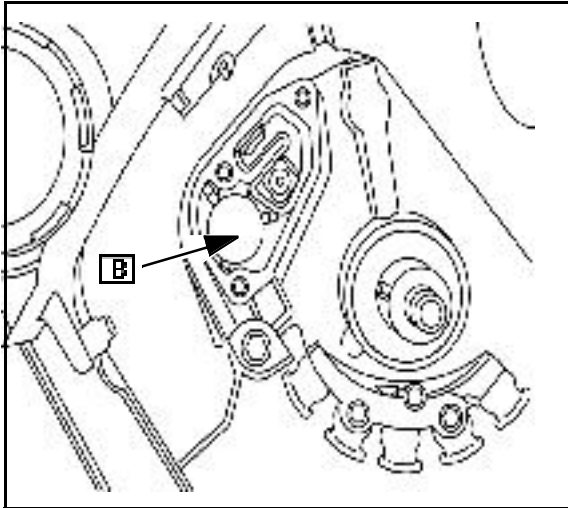

Fig. 25
- Install disc valve on seat ([B] Fig. 25).